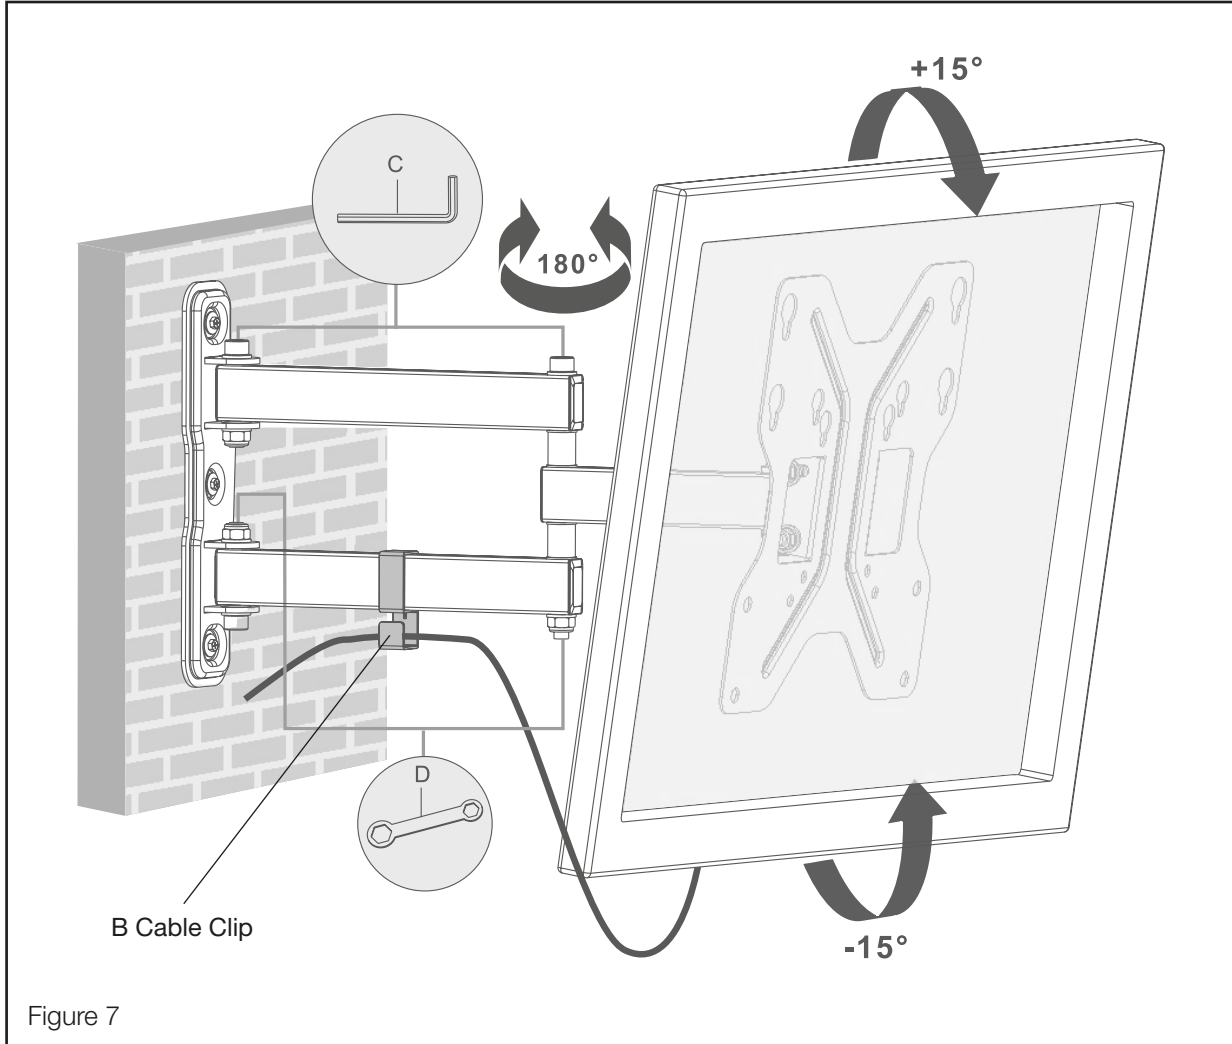

Figure 7
1. You can now adjust your TV to the desired viewing angle (see Figure 7).
2. Once your TV is connected you can now use the cable clip (B) to manage your cables.
3. If your Wall Mount is too loose and moves around too easily or vice versa (too tight) please use provided Allen key (C) or M6/M8 wrench (D) to tighten or loosen as required.